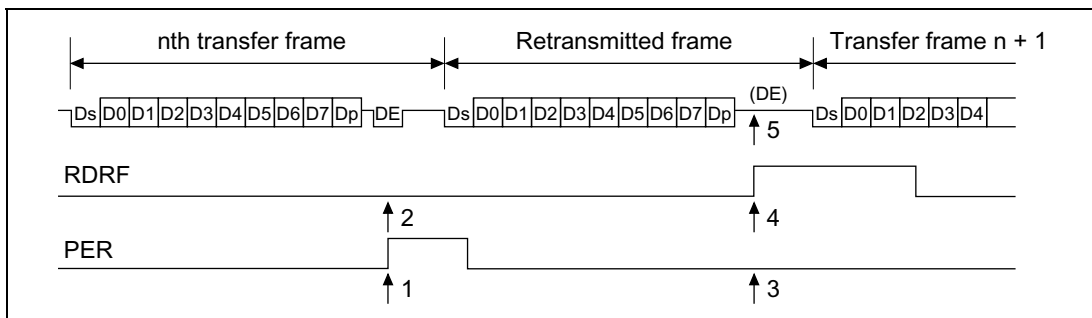

**Figure 18.9 Retransmission in SCI Receive Mode**
**Retransmission by the SCI in Receive Mode:** Figure 18.9 shows the retransmission operation in the SCI receive mode.